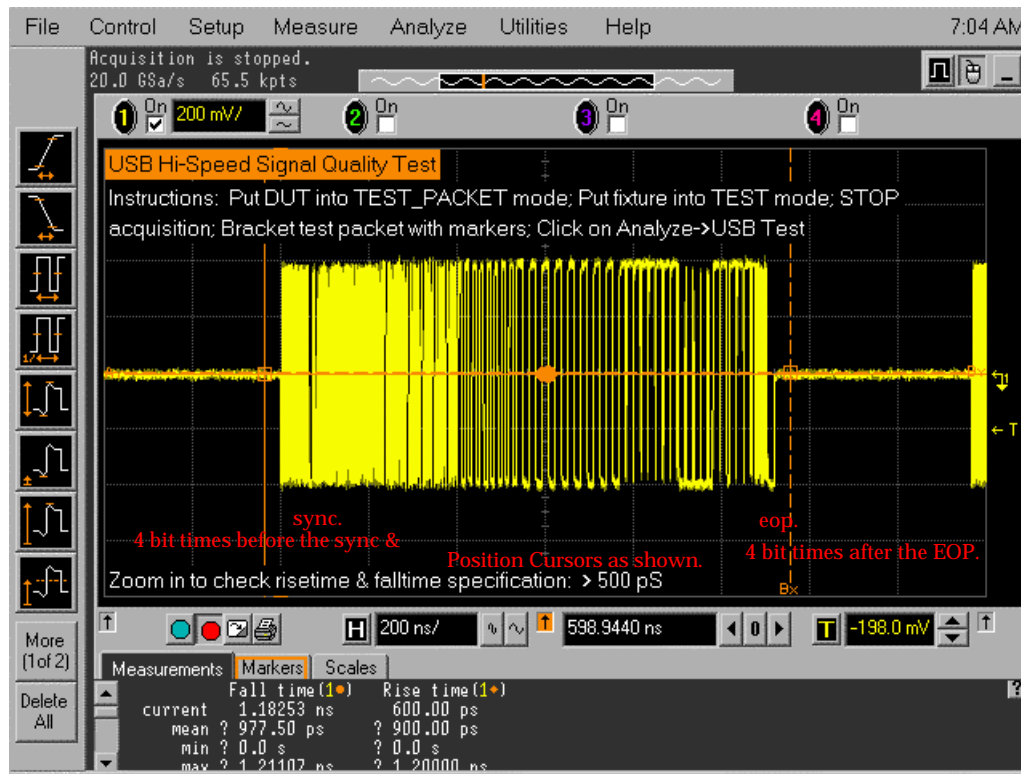

Figure 6. Test Packet from Device
13. On the oscilloscope, adjust the two vertical cursors around one test packet as shown in Figure 6...